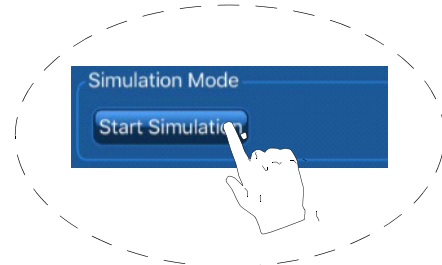

Figure 6. Simulation Mode
2. Touch **Advanced** (Figure 6).